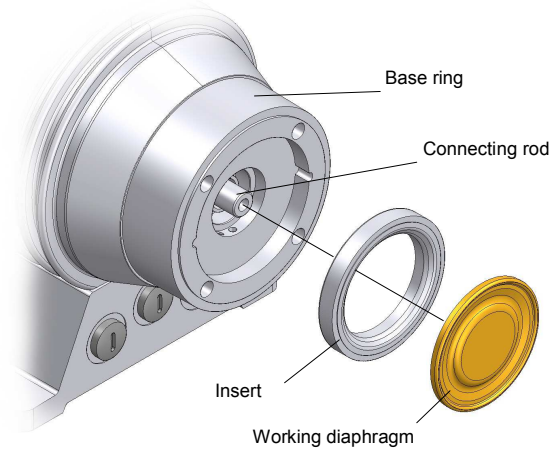

Fig. 57 Disassembly of working diaphragm
- Unscrew working diaphragm from connecting rod (see Fig. 57)